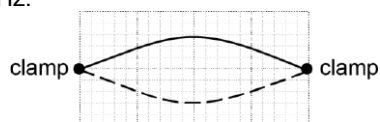

Fig. 5.2
The direct current is changed to an alternating current of constant amplitude and variable frequency, causing the wire to oscillate. The frequency of the current is increased until the fundamental natural frequency of the wire is found as shown in Fig. 5.2. This is 70 Hz .
- i. In the situation shown in Fig. 5.2 the amplitude of the oscillation of the centre point of the wire is 4.0 mm . Calculate the maximum acceleration of the wire at this point.